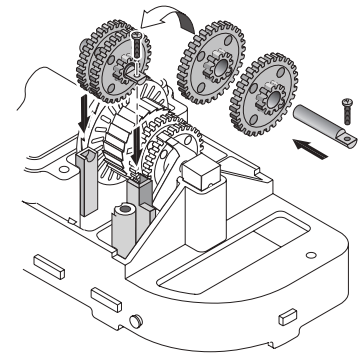

Figure 30
4. Reinstall the short gear shaft, set screw and two gears (**see Figure 30**); the small pinion gears and the shaft set screw go on the side toward the end of the cleaner – away from the oscillator box. Make sure that the gears engage the gears on the long gear shaft.